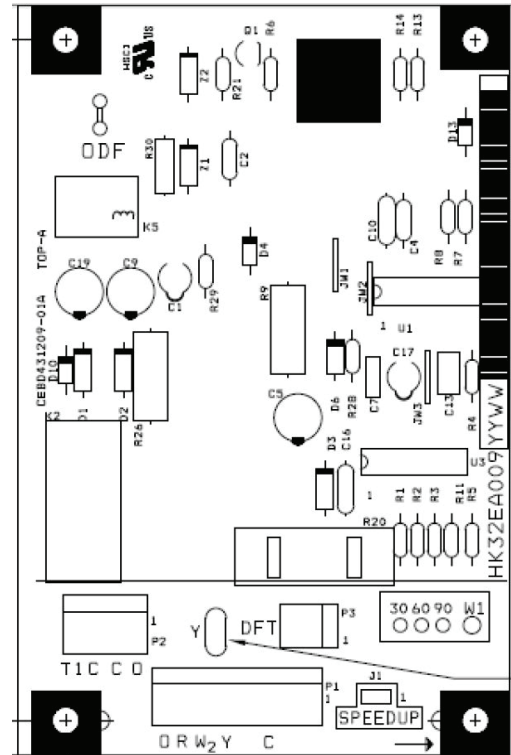

Fig. 12 – Defrost Control HK32EA009 for units with ECM Motor A170138
2. Disconnect outdoor fan motor lead from OF2 on control board for units using PSC motors and from ODF terminal on units with ECM motor (see Fig. 12). Tape lead to prevent grounding.